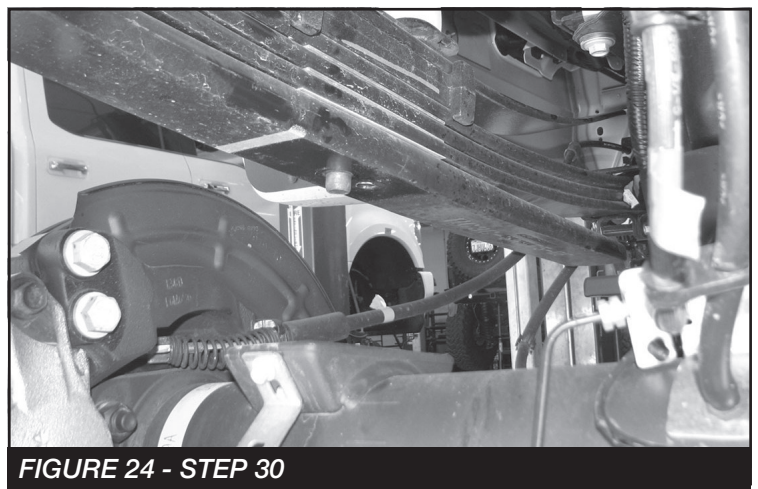

FIGURE 24 - STEP 30
30. Jack up the rear end of the vehicle and support the frame rails with jack stands. Release the parking brake at this time. Supporting the rear differential, remove the rear shock and u-bolts. Disconnect the sway bar end link from the sway bar then lower axle down and remove the blocks. Use care not to over extend the brake hose. **SEE FIGURE 24**